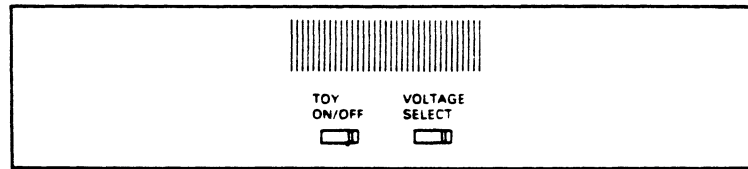

FIGURE 2-30 BBU FRONT PANEL
2. Remove the BBU from the shipping container and place it on a flat surface. See Figure 2-30.